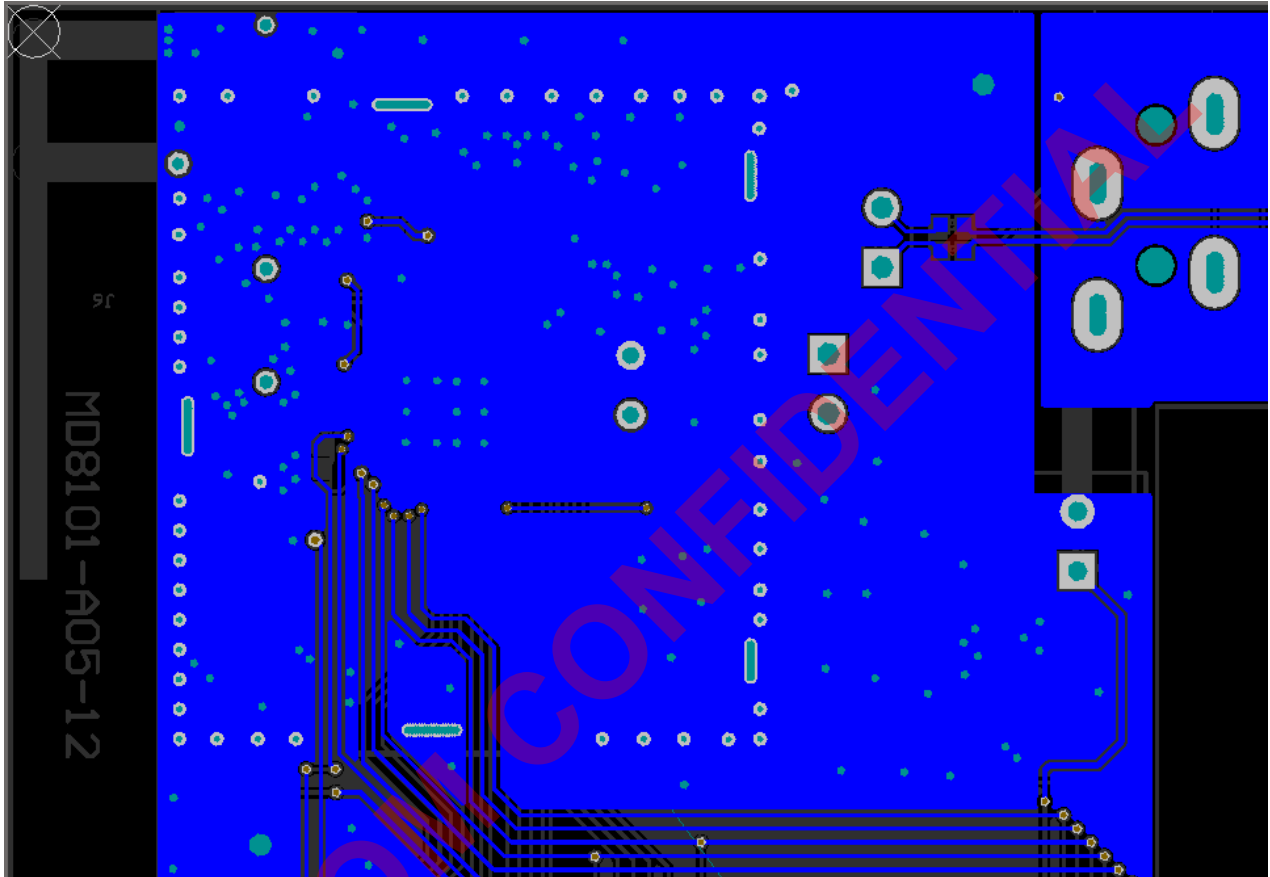

Fig. 2.2a Layout of MD8101-A05-12(Bottom view)
1. A8101 should have very solid ground. The ground plane should be intact, and not fragmentary. Please refer to Fig. 2.2a.